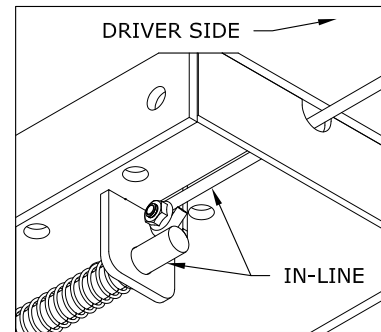

Figure E1: Center Section
1. Install the latch pin release handle by inserting it through the slot in the end of the center section on the driver's side of the truck. Align the handle eyelet with the square hole in the latch pin so the handle is in line with the latch as shown in figure E1.